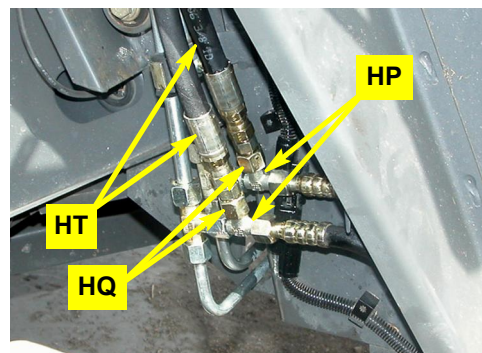
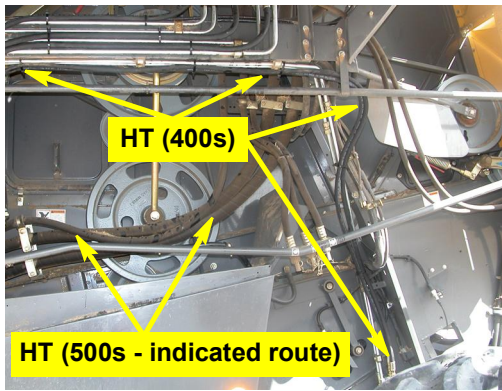
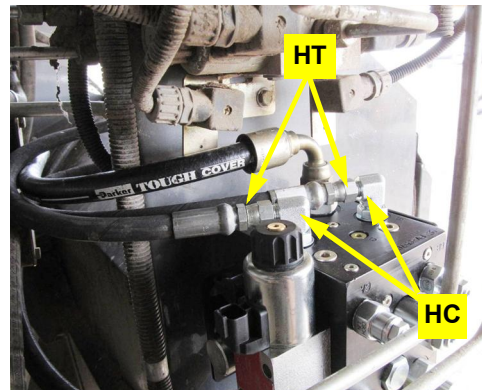

Figure 8a: Steering hoses at run-tees (500 series installation shown - hoses onto reducer adapters on run-tees)
Figure 8b: Routing steering hoses to/from hydraulic steering block
Figure 8c: Steering hoses at steering block
**NOTE:** On 500 series machines, you need to use the larger run-tees HP with reducer fittings HQ - see Figure 8a.
Figure 7 with inset: Run-tees (and adapters) installed at steering line/hose connections (500 series installation shown - see Figure 8a)
Connect steering hoses HT between the stem ends of run-tees HO (400 series) or adapters HQ on the stems of HP (500 series) (Figure 8a - 500 series shown) and adapters HC in the steering ports of the hydraulic steering block (Figure 8c). Note the slightly different hose routing for 400 and 500 series machines (Figure 8b).